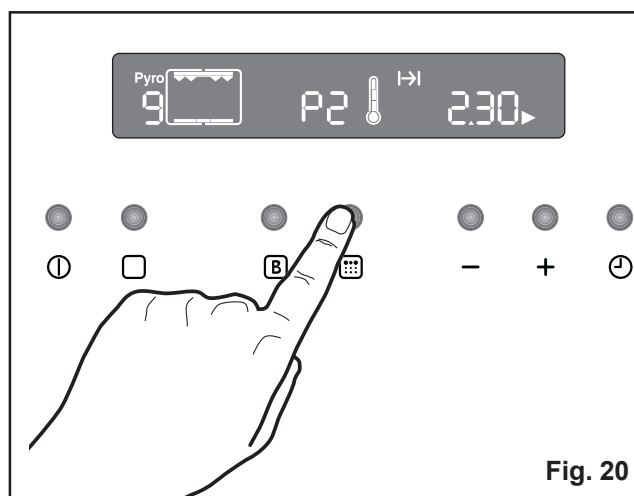

Fig. 20
4. To confirm which pyrolytic function you desire, press button , the "Pyro" text will stop flashing and the pyrolytic cleaning cycle starts (Fig. 20).